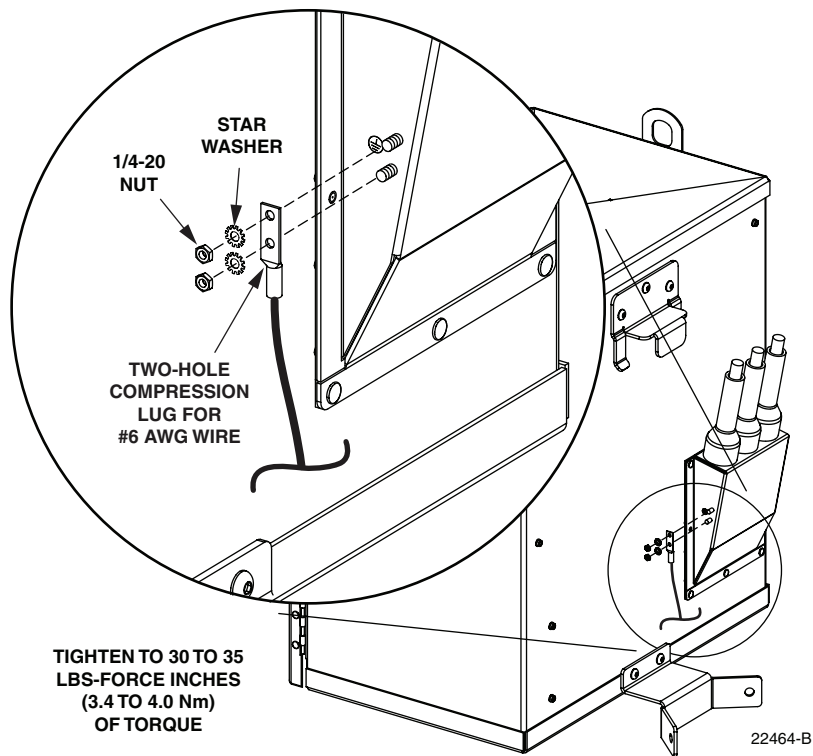

Figure 6. Grounding Cable Connection To Pole-Mount Cabinet
14. Remove the 2-hole compression lug, two 1/4-20 nuts, and two 1/4-inch star washers from the grounding studs at the rear of the cabinet as shown in Figure 6.